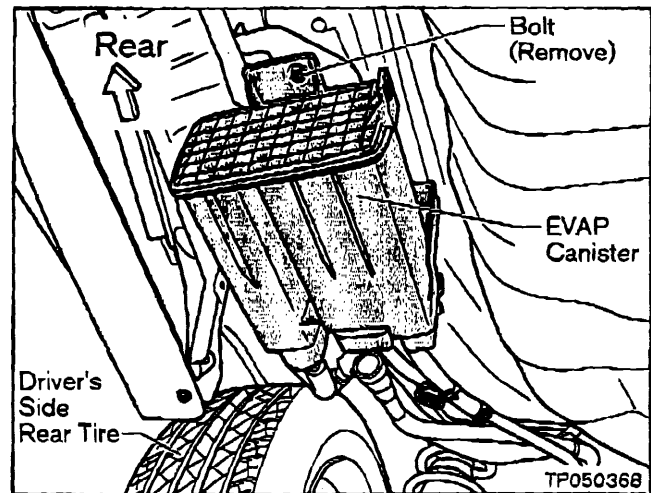

Figure 14
3. Remove one Bolt and slide the EVAP Canister rearward to remove it from the vehicle (see Figure 14).